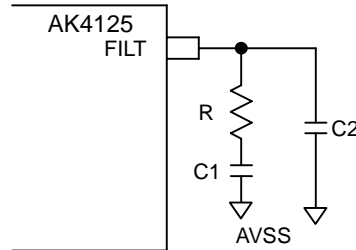

Figure 14. PLL Loop Filter
The C1 and R should be connected in series and attached between FILT pin and AVSS in parallel with C2. (Figure 14, Table 6, Table 7) Please be careful the noise onto the FILT pin. When using IBICK, the value of external element is not dependent on the IBICK input frequency.
- When IMCLK is 256fs, 384fs, 512fs or 768fs, any external parts shown in Figure 14 are not required.